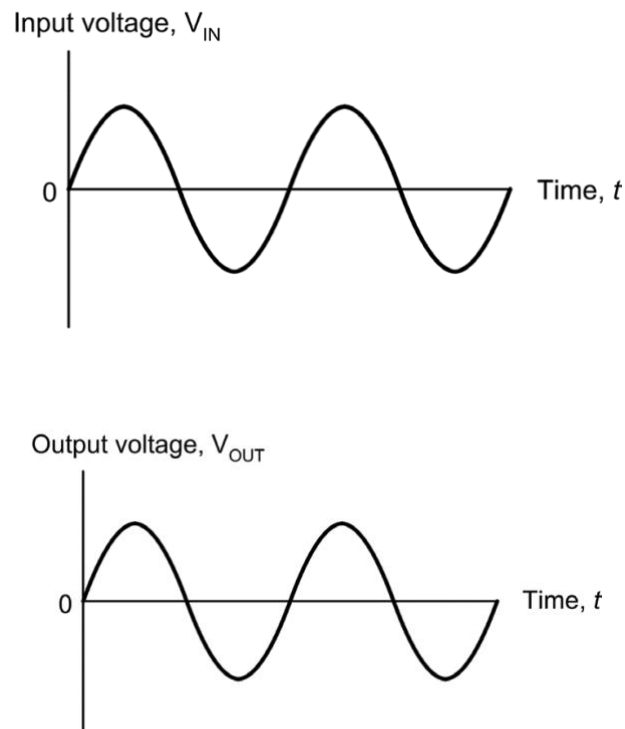

Figure 1.41 Typical input and output waveforms for a voltage follower
- Typical input and output waveforms for a voltage follower are shown in Fig. 1.41.